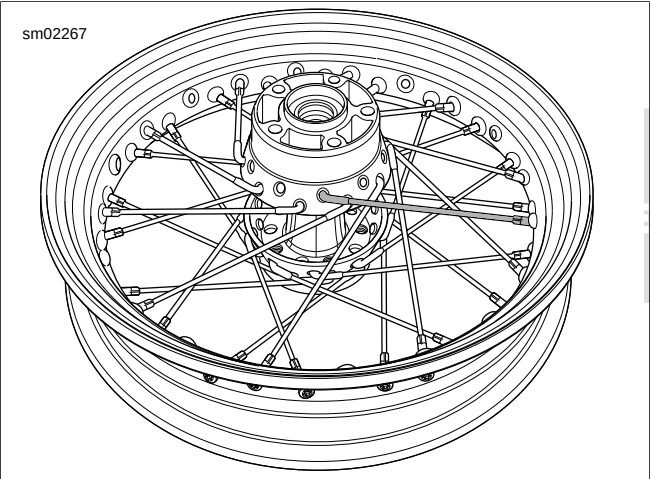

Figure 2-29. Sprocket Side Up: Start First Spoke of Top Row
9. See Figure 2-29. Insert any **upper** row spoke into hub and angle spoke counterclockwise. Place spoke into appropriate rim hole.